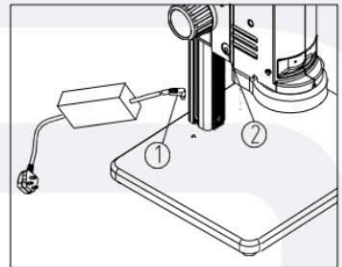

Fig.3
Insert the external adapter plug (1) into the power supply adapter socket (2) of the microscope body to the bottom, and the power will be switched on. (See Fig. 3)